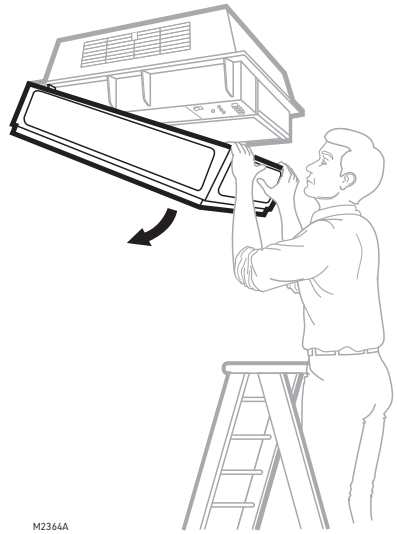

Fig. 5. Opening the F90A Cover.
- Open the cover by pulling the two latches located on the front of the cover and swinging the cover down until it hangs (See Fig. 5).